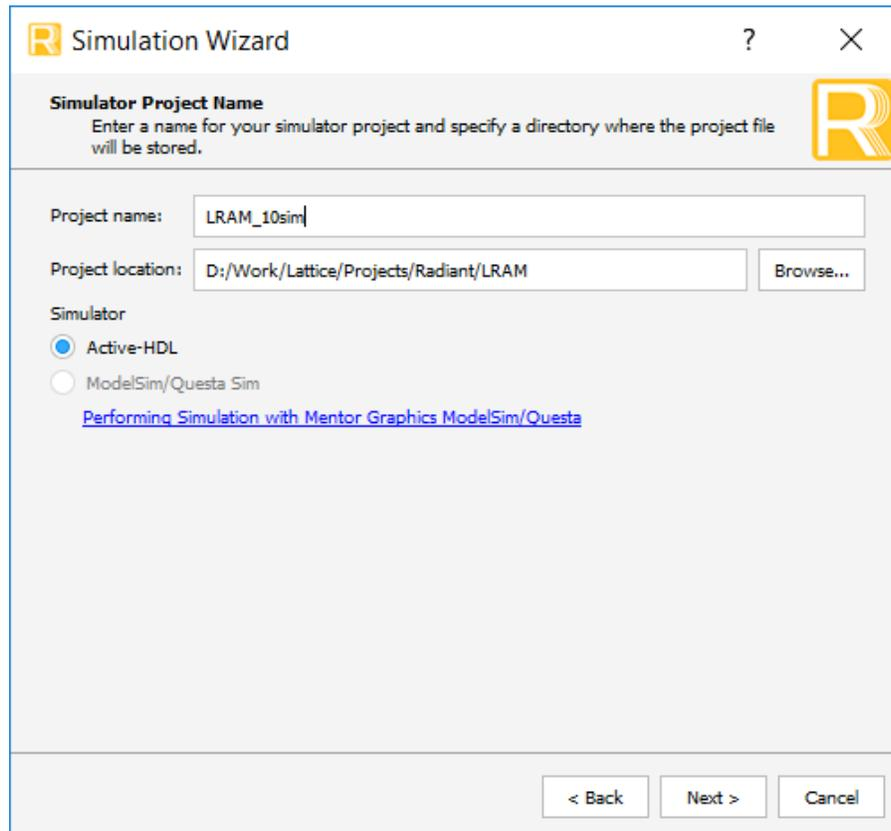

Figure 4.4. Simulation Wizard
2. Click the  button located on the Toolbar to initiate the Simulation Wizard shown in Figure 4.4